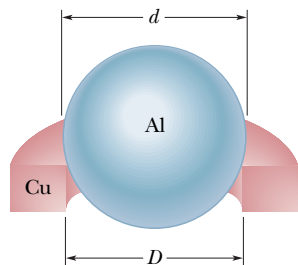

Fig. 18-35 Problem 42.
•••42 A 20.0 g copper ring at 0.000°C has an inner diameter of $D = 2.54000 \text{ cm}$. An aluminum sphere at 100.0°C has a diameter of $d = 2.54508 \text{ cm}$. The sphere is put on top of the ring (Fig. 18-35), and